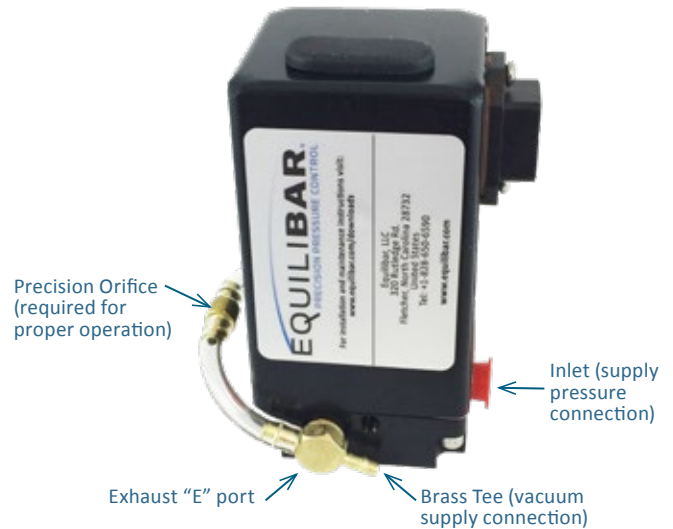

Figure 1 "M" Style QPV with absolute pressure installation configuration - side view
5. Connect vacuum supply to the brass "Tee" in the QPV Exhaust Port. (See Figure 1)